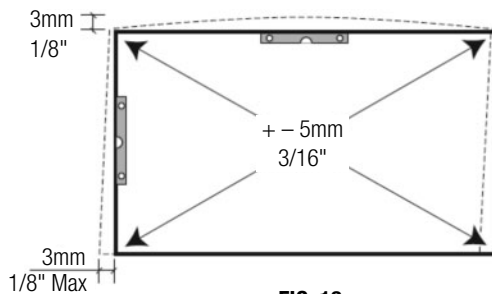

FIG. 13
- Check the unit for square using diagonal measurements. Shim frame to ensure the unit is square. Check the unit for square. The difference between the diagonal measurements shall not exceed 3/16". (Fig. 13)